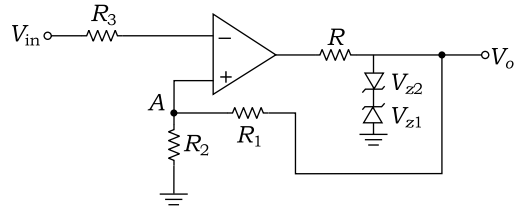

Fig. 7.114
36. In a Schmitt trigger circuit as shown in Fig. 7.114, $R_1 = 10 \text{ k}\Omega$, $R_2 = 5 \text{ k}\Omega$, $V_{in} = 5 \sin \omega t$, and saturation voltage $\pm 15 \text{ V}$. Assume $V_{Z1} = V_{Z2} = 10 \text{ V}$, $V_D = 0.6 \text{ V}$